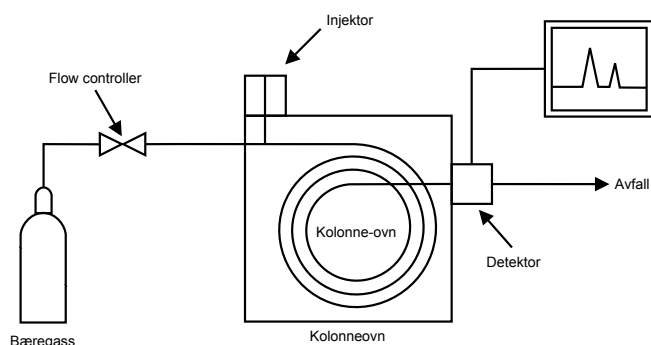

Figure 29.4a. Schematic of gas chromatograph. (Credit: Image by Offnfopt, PD)
In early 1900s, Gas chromatography (GC) was discovered by Mikhail Semenovitch Tsvett as a separation technique to separate compounds. Among the various types of gas chromatography, gas-liquid chromatography is the method most commonly used to separate organic compounds. The combination of gas chromatography and mass spectrometry is an invaluable tool in the identification of molecules. A typical gas chromatograph consists of an injection port, a column, carrier gas flow control equipment, ovens and heaters for maintaining temperatures of the injection port and the column, an integrator chart recorder and a detector (Figure 29.4a.). Often a mass spectrometer is used as the detector.